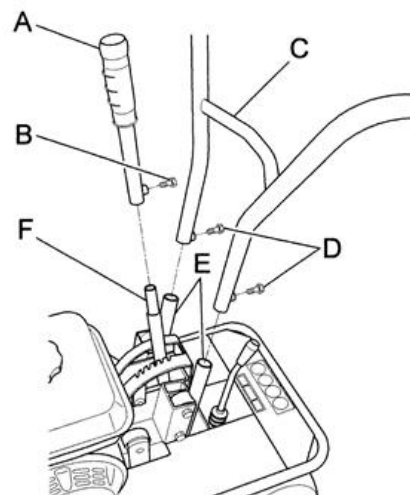

Fig. 3
WARNING: During operation the lawn and turf are cut into strips. Should the cutter's wheels skid during use it is advisable to adjust the cutting height using the special lever (Fig. 3, ref.A). If this operation does not prevent this occurrence check the state of the terrain. If it is too dry it should be wetted so that the blade encounters a slight resistance, thus making cutting operations easier.
-Lift the handlebar (Fig. 3 Ref. C) and insert it in the supports shown in Fig. 3 ref. E. Select the required cutting height and secure the setting using the screws provided (Fig. 3 ref. D).
-Fit the end part of the cutting height adjustment lever (Fig. 3 Ref. A) into its relative support (Fig. 3 ref. F) and secure using the screw provided (Fig. 3 Ref.B)